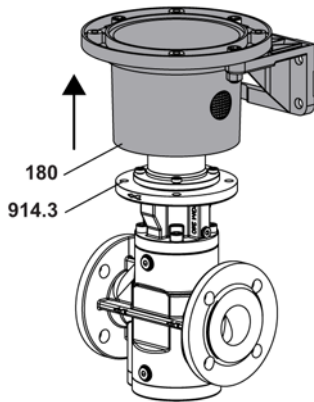

Fig. 5
1. Loosen the socket screws **914.3** between the pump and pump bracket **180** and remove the pump bracket, see Fig. 5.